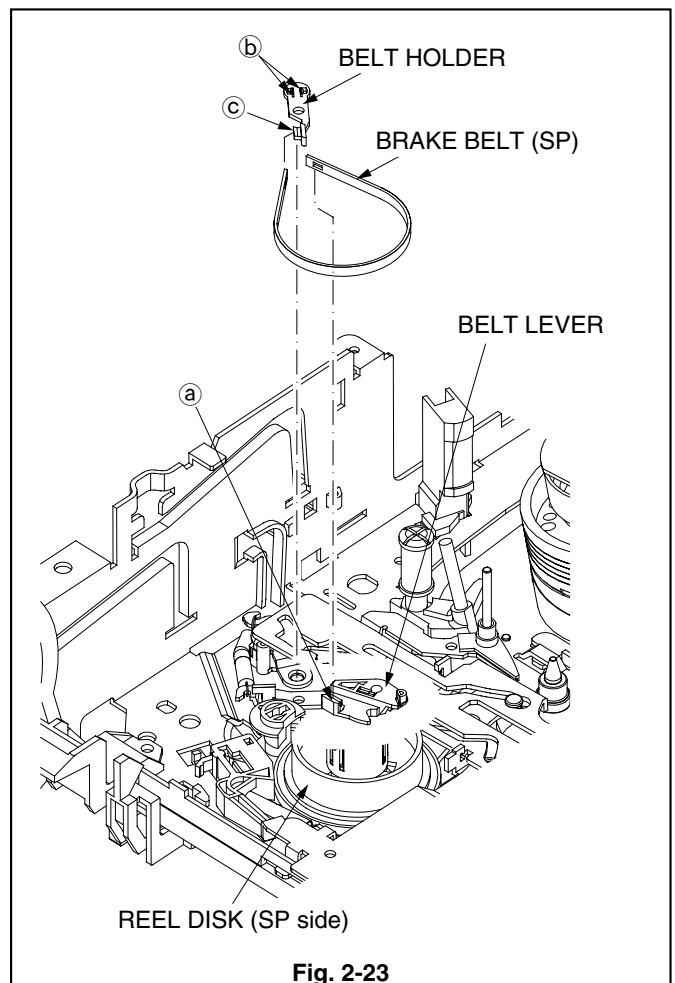

Fig. 2-23
1. Lift the BRAKE BELT (SP) shown in the Fig. 2-23 to remove it from the REEL DISK (SP side).
2. Release the BRAKE BELT (SP) from the catch (a) of the BELT LEVER shown in the Fig. 2-23.
3. Release the two catches (b) of the BELT HOLDER shown in the Fig. 2-23 and separate the BELT HOLDER from the BRAKE BELT (SP).
4. Release the catch (c) of the BELT HOLDER shown in the Fig. 2-23 to remove the BRAKE BELT (SP).
**Note :** Install the BRAKE BELT (SP) so that its Felt Side touches the REEL DISK (SP side). GREASE applied to the BRAKE CAM PLATE and MAIN PLATE ASSY should not adhere on the Felt Side of the BRAKE BELT (SP).
1. Install the BRAKE BELT (SP) shown in the Fig. 2-23 to the catch (c) of the BELT HOLDER.
2. Install the BELT HOLDER shown in the Fig. 2-23.
3. Install the BRAKE BELT (SP) shown in the Fig. 2-23 to the catch (a) of the BELT LEVER.
4. Hook the BRAKE BELT (SP) shown in the Fig. 2-23 to the REEL DISK (SP side).